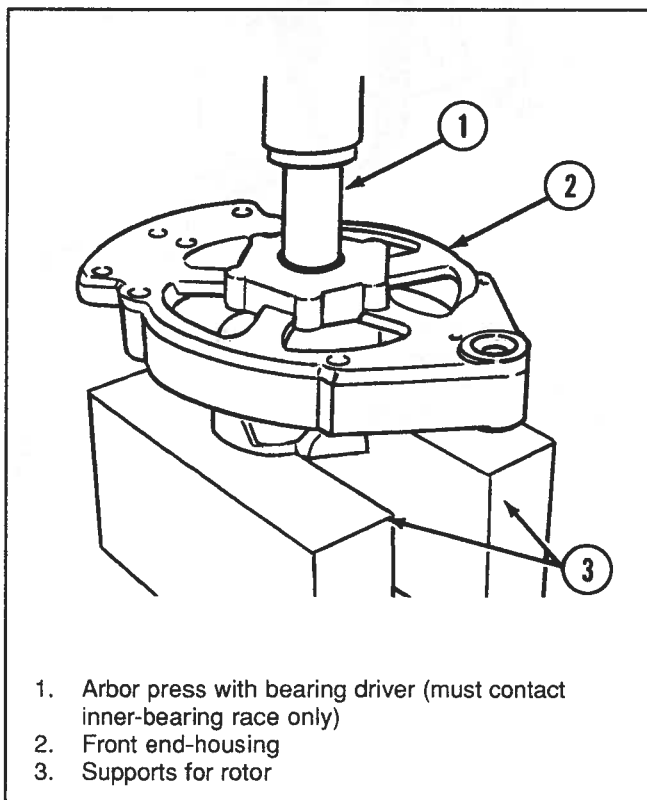

Figure 6-108. Pressing Bearing Into Front End-Frame
5. Press front end-frame and bearing assembly onto rotor shaft until inner bearing race contacts shoulder. Use an arbor press and a bearing driver that fits over shaft and contacts inner bearing race only, as shown. Be sure to support rotor on pole pieces only. See Figure 6-108.
13. Position felt seal on regulator-mounting surface (See Figure 6-108). Connect regulator-field lead to brush terminal, then mount regulator with screws. Torque screws to specifications. Connect regulator leads to regulator terminal and ground terminal, and secure with lockwashers and nuts. Torque nuts to specifications.